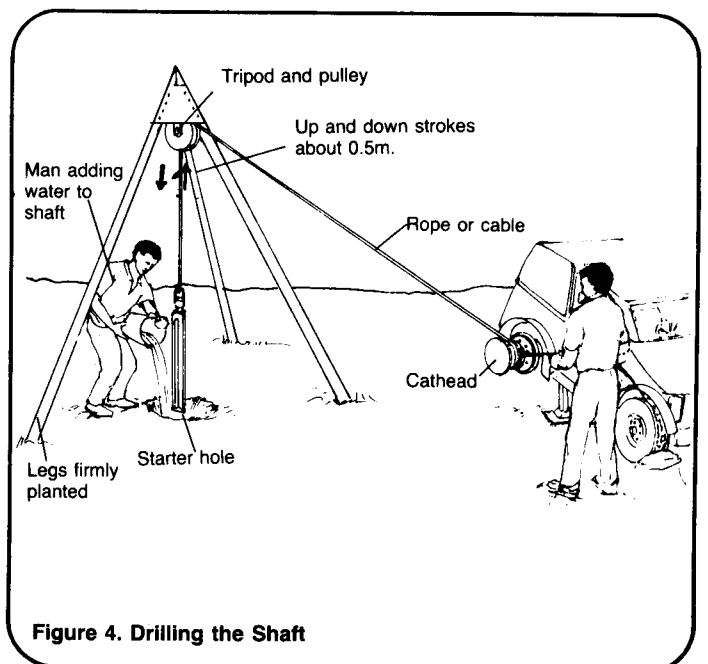

Figure 4. Drilling the Shaft
3. Erect a sturdy tripod over the site and plant the legs firmly in the ground. Mark the exact point where the well will be drilled by lowering a plumb bob from the tripod's pulley. If the ground can be worked with a shovel, dig a starter hole 0.5m deep. See Figure 4.
4b. In the mechanical method, park a jeep or truck 4-6m from the well site, jack up the rear end, and put rocks in front of the tires. Remove the rear wheel, bolt a cathead to the brake drum, and grease the cathead. Wrap the rope one turn around the cathead, and pull the loose end away from the well site. See Figure 4.
5. Begin sinking the shaft by raising and dropping the percussion bit. In the manual method, have the workers press down on the rope, then quickly raise up. In the mechanical method, start the engine and engage the cathead to set it spinning; pull taut the loose end of the rope to raise the bit, then let the rope go slack to drop the bit. In both methods, rapid and short strokes of about 0.5m seem to work best. See Figure 4.